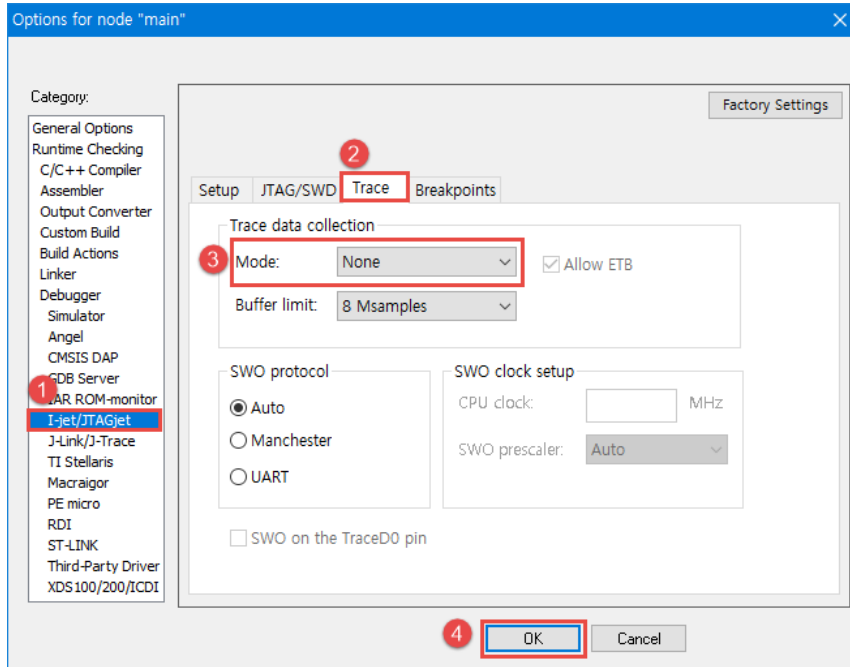

Figure 32: Trace Mode Setting
- n. Select the **Trace** tab (2). See Figure 32.
- o. Set the **Mode** to **None** (3).
- p. Click **OK** (4).